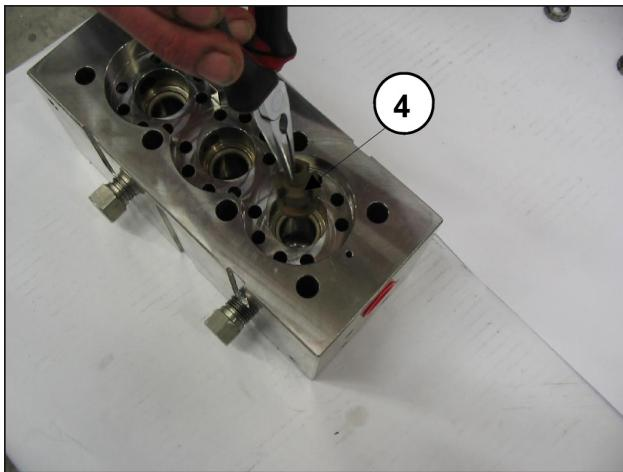
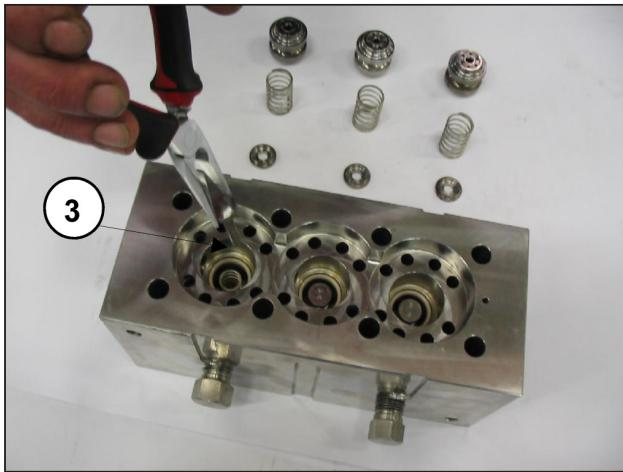

Fig. 26
Fig. 27
- Extract the outlet plates ③ and their guides ④ with the springs, as shown in Fig. 26 and Fig. 27, check for wear and replace if necessary, and in any case within the times indicated in the "PREVENTIVE MAINTENANCE" table of chapter 11 in the ***Use and maintenance manual***.